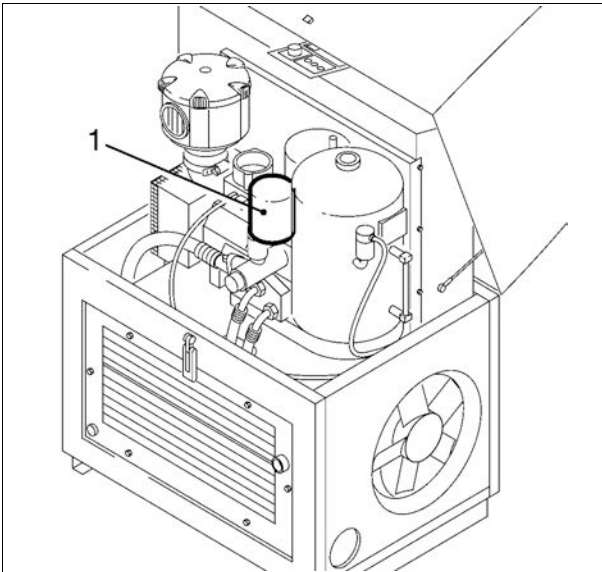

Fig. 18
- Unscrew the oil filter cartridge (- 1 - Fig. 18) using an appropriate tool